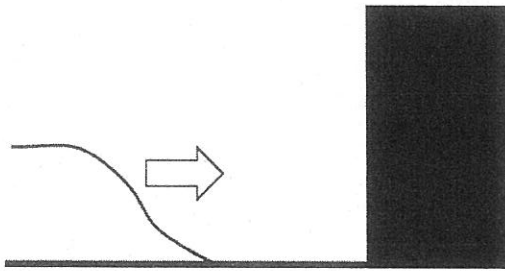
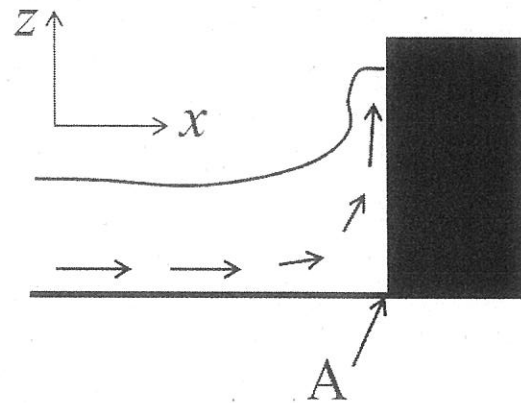

Figure 4
Figure 5
- (3) In the structural design of a tsunami evacuation building, it is necessary to estimate the tsunami force. Consider a tsunami hitting the wall of a tsunami evacuation building as illustrated in Figure 4. The velocity distribution in front of the wall when the water pressure becomes maximum is schematically shown in Figure 5. The water pressure at Point A is known to be larger than the static water pressure corresponding to the local flow depth. In Figure 5, the following condition is achieved at all the point along the wall: